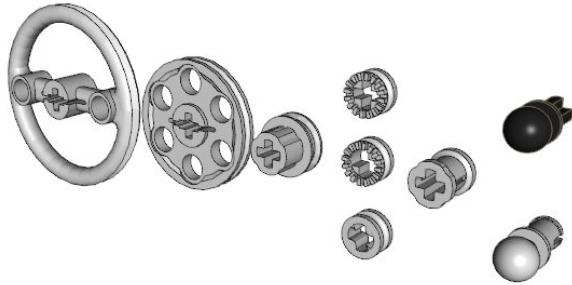

Figure 4
- Pulleys [Fig. 4] (3736, 4185, 2983, 4265A, 4265B, 4265C, 3713, 2736 y 50)